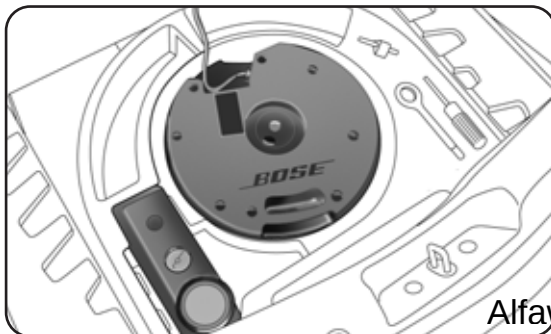

fig. 121
- take the "Automatic Fix&Go Kit" located on the left side of the boot (fig. 121);
IMPORTANT If you need to remove the subwoofer follow the indications shown on the adhesive label fig. 121 over the subwoofer itself to reposition it correctly.